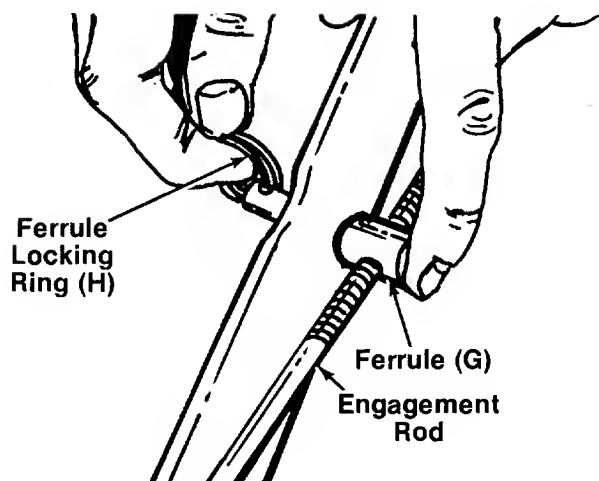

FIGURE 11.
19. With handle in the down position (released), place ferrule (G) on threaded end of engagement rod. Thread ferrule onto engagement rod until it lines up with the hole in lower handle.
20. Place ferrule into hole in lower handle. Secure with ferrule locking ring (H). See figure 11.